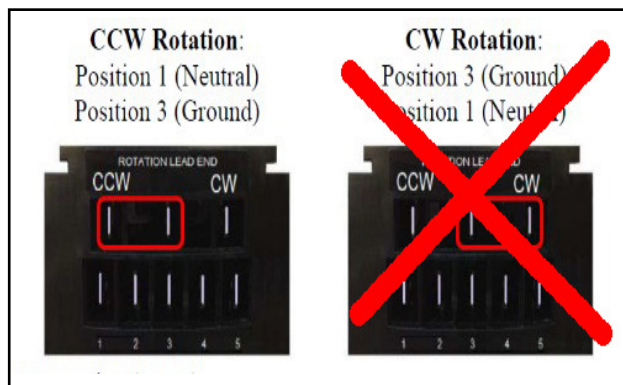
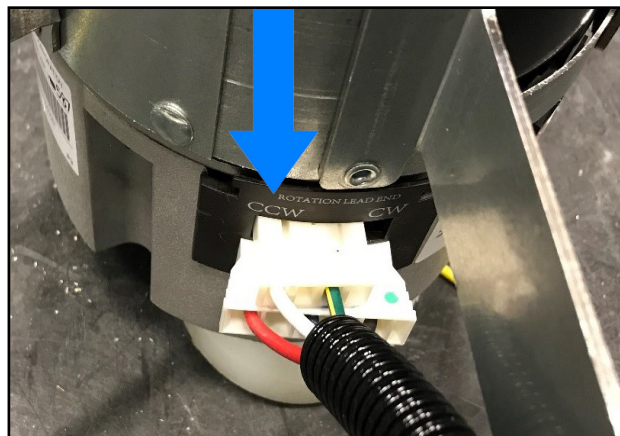

FIGURE 13: CCW MOTOR ROTATION TERMINAL
FIGURE 14: LOCATION OF WHITE WIRE
- If the fan does not turn on and wall control (WTT) display is blank, check power to the unit and the verify that fan power cord is plugged in to active 115VAC outlet. Verify the 4 pin and 5 pin cable harnesses are connected to the ECM motor. Refer to Figure 14 showing proper installation of two motor cable harnesses.
This product is equipped with an ECM motor that is designed to operate in a Counterclockwise (CCW) rotation. The motor can run in either Clockwise (CW) or Counterclockwise (CCW) rotation depending on installation of the 4 pin terminal (ie: the location of White [Neutral] wire in relationship to the rotation terminal on the motor) per Figure 13. The white wire should be inserted directly under the CCW notation on the motor as shown in Figure 14. Please note that white wire should be on same side as red wire of 5 position terminal as shown in Figure 14 photo.